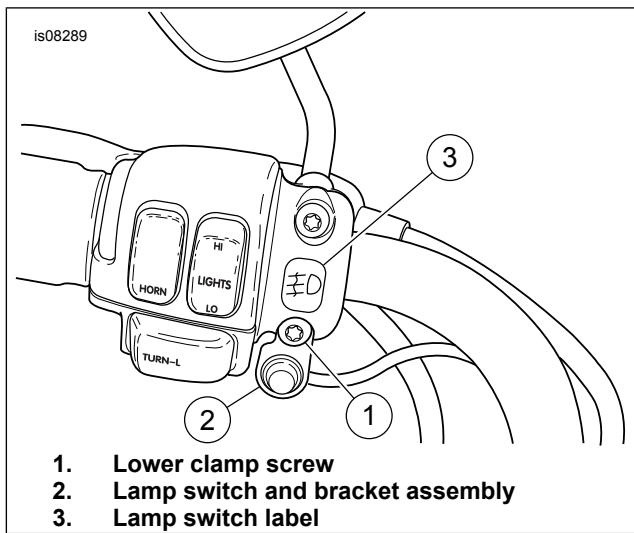

Figure 7. Install the Lamp Switch on the Clutch Control Clamp (1996 and Later Shown)
15. See Figure 7. Remove the lower screw (1) and washer from the clutch control clamp, and install the lamp switch and bracket assembly (2). Install the screw and washer and tighten to 60-80 in-lbs (7-9 Nm). **For International Applications:** Place the fog lamp switch label (3) on the clutch control clamp.